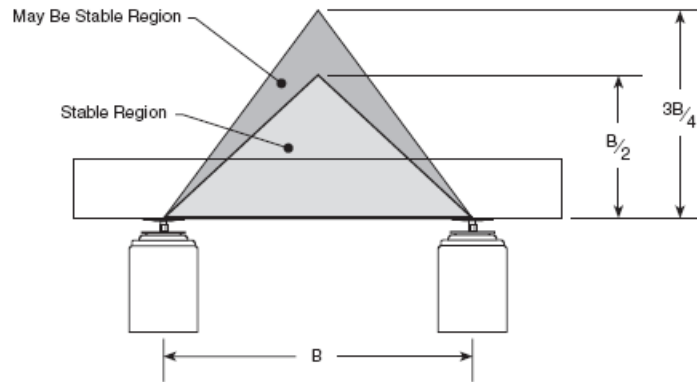

Figure 14— System Stability
2. A rule of thumb for determining high center of gravity (C-G) system stability is shown in Figure 14. If the combined center of gravity of the payload and table top is within the “stable region”, the system will be stable. If the combined C-G is inside the “may be stable region”, the